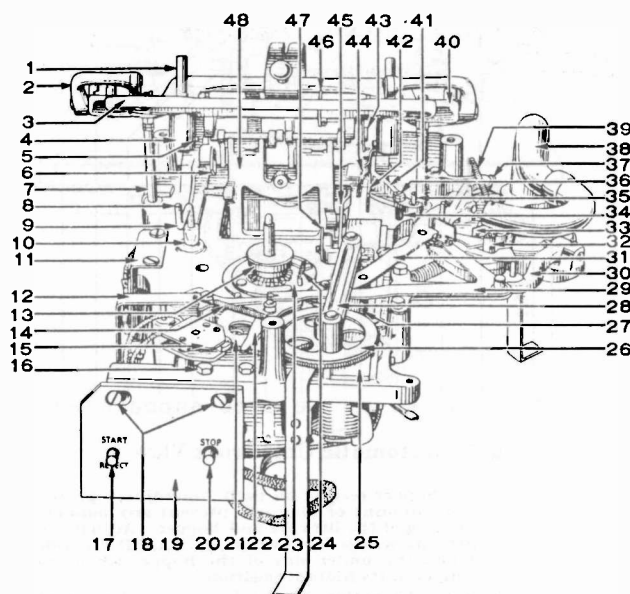

Fig. 1—Automatic Mechanism with Motor Board Removed
- a. Replace thrust washer (No. 25, Fig. 1).
- d. Turn the link pin adjuster until the rollers of the lift lever mechanism 48, Fig. 1, are in the slots pressing against the extreme end of their track (cam).